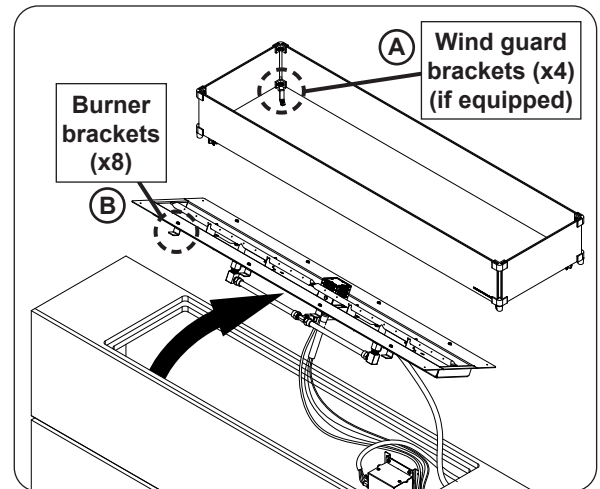

Fig. 45-1 Remove wind guard, then gain access to interior
1. If equipped, remove the wind guard assembly from the burner. First remove all media. Then use a $\frac{5}{16}$ " nut driver to unfasten the 4 screws found on the assembly. See Fig. 45-1, A.
2. Use a $\frac{5}{16}$ " nut driver to partially unfasten the 8 screws found on the burner assembly. Then lift out the burner and set it off to the side. See Fig. 45-1, B.